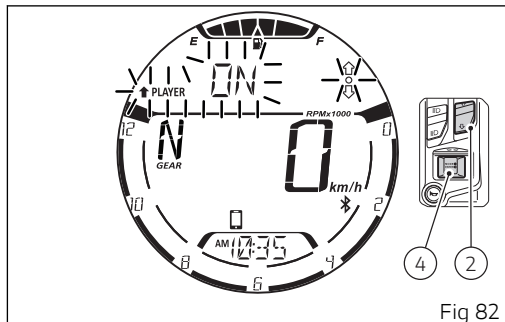

Fig 82
To exit the music player control and keep it active, for example with the track being played, press button (2) for 2 seconds. Afterwards, the display shows the black arrow facing upwards flashing for 3 seconds followed by the indication "PLAYER", the message "ON" and the empty circle "○" (Fig 82).